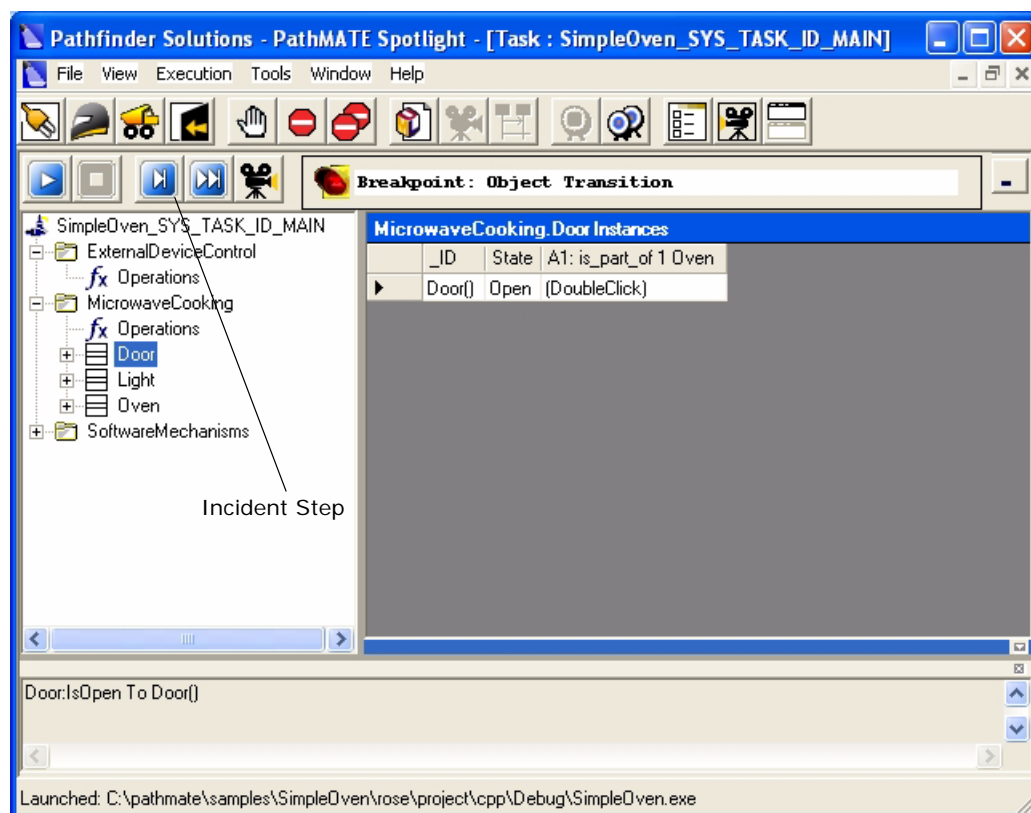

Figure 4-2. One Instance of the Door Class
1. Click the Incident Step button above the browser (Figure 4-2).
3. Select the Door class in the browser (Figure 4-2).